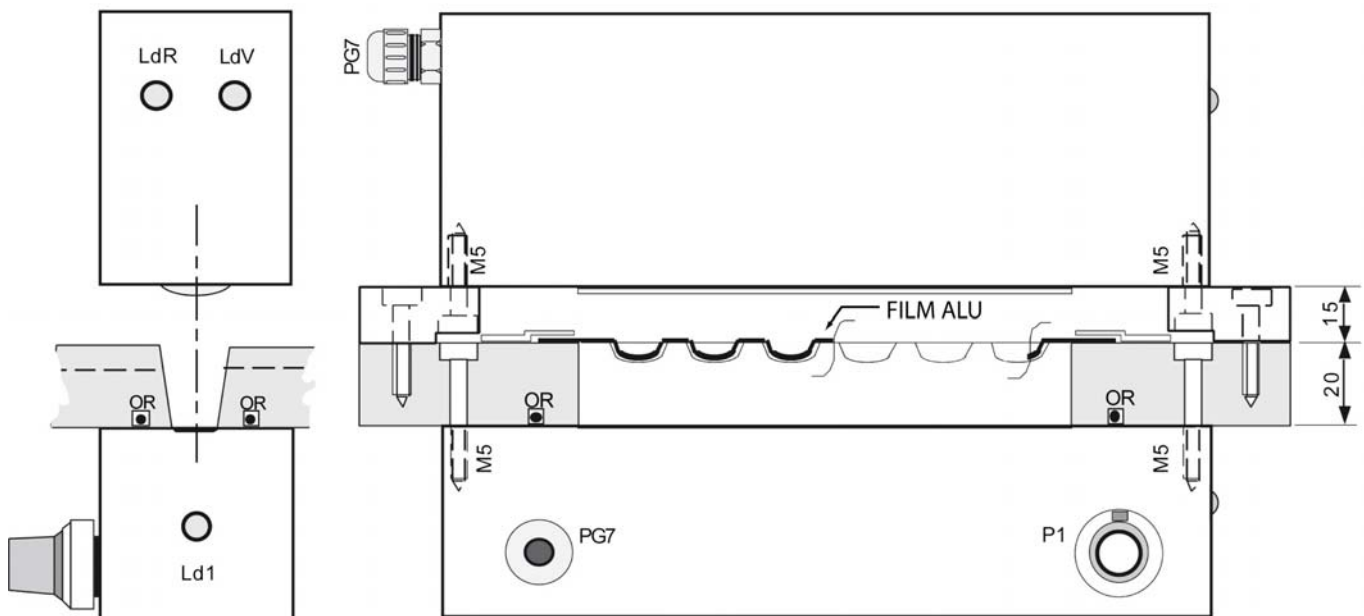

Fig. 7
The typical installation of the device is shown in (Fig. 7):
- the illuminator is fitted on the film upper side at a distance of 15 mm (Fig. 7 – Ref. 1) by means of suitable side supports supplied with it
- the receiver must be kept at a distance of 20 mm (Fig. 7 – Ref. 2) from the film lower surface by means of a plate (or directly by the sliding surface) with a slot which is as long as the width to inspect and as wide as the photosensor line.